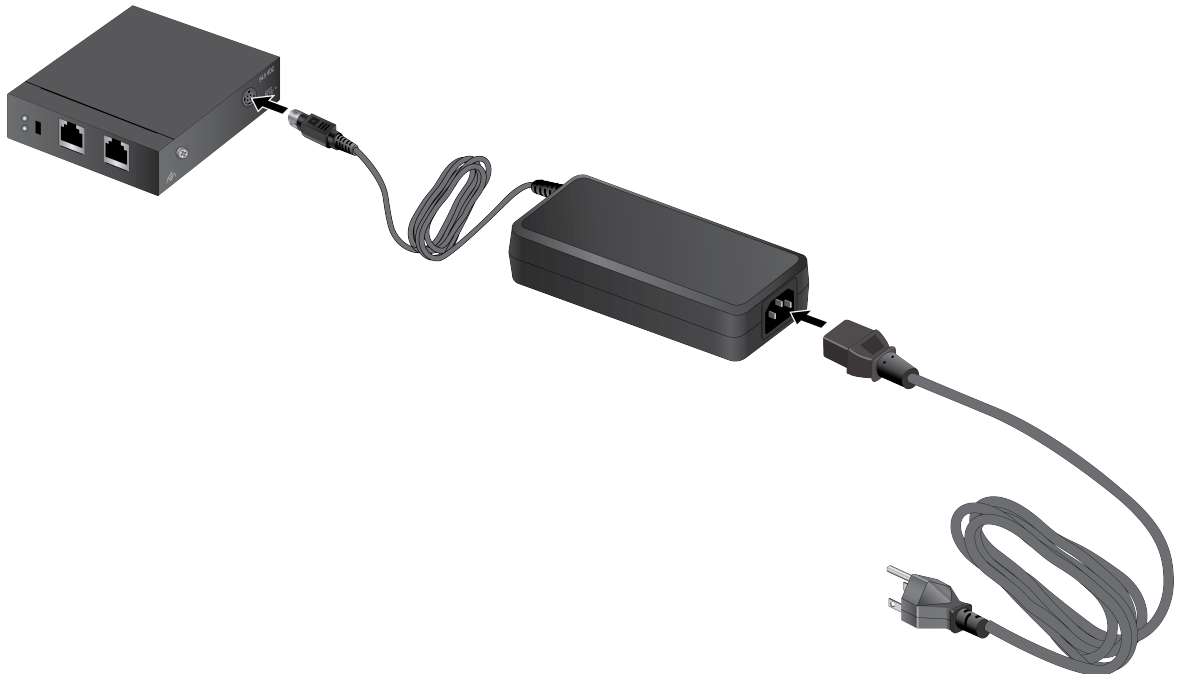

Figure 7. Connecting the Power Adapter to the PoE Injector
3. Connect the 4-pin Mini DIN connector of the power adapter to the PoE injector. See Figure 7.
4. Connect the power cord to the power adapter as shown in Figure 7.